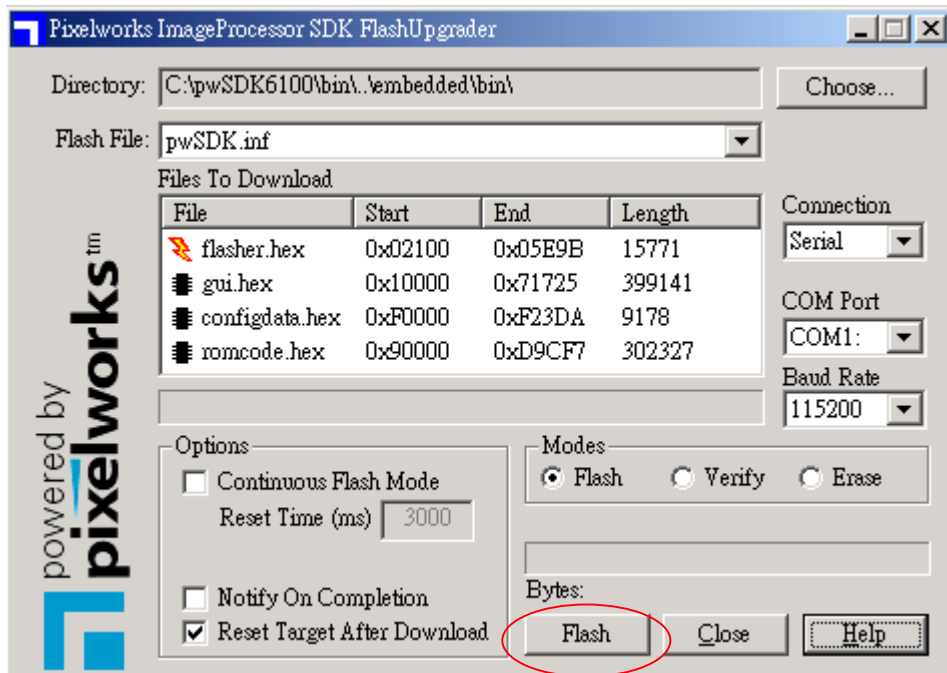

Fig. 4
- Run FlashUpgrader.exe and open the file pwSDK.inf. You can browse to locate it. Select the correct COM port and use 115200 as the BAUD rate.(as Fig. 4)